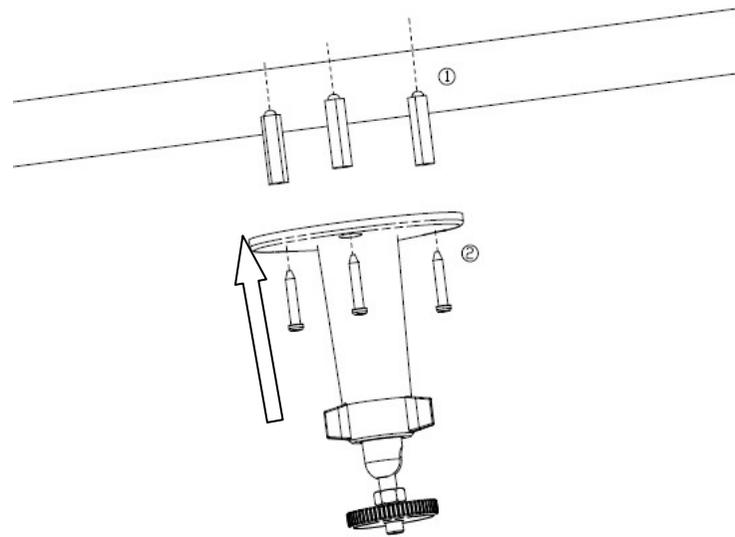

Figure 2.2.1 Fix camera mounting bracket
If it is wall, you need to fix the expand bolt (note: the mounting hole of the expand bolt should align with the bracket) before fixing the bracket, as step ① in Figure 2.2.1. If the wall surface is wooden, the step ① in Figure 2.2.1 can be ignored and you can use the self-tapping screw to fix the bracket directly. Please note that the wall on which the camera is fixed should be able to bear at least three times the weight of the bracket and the camera.